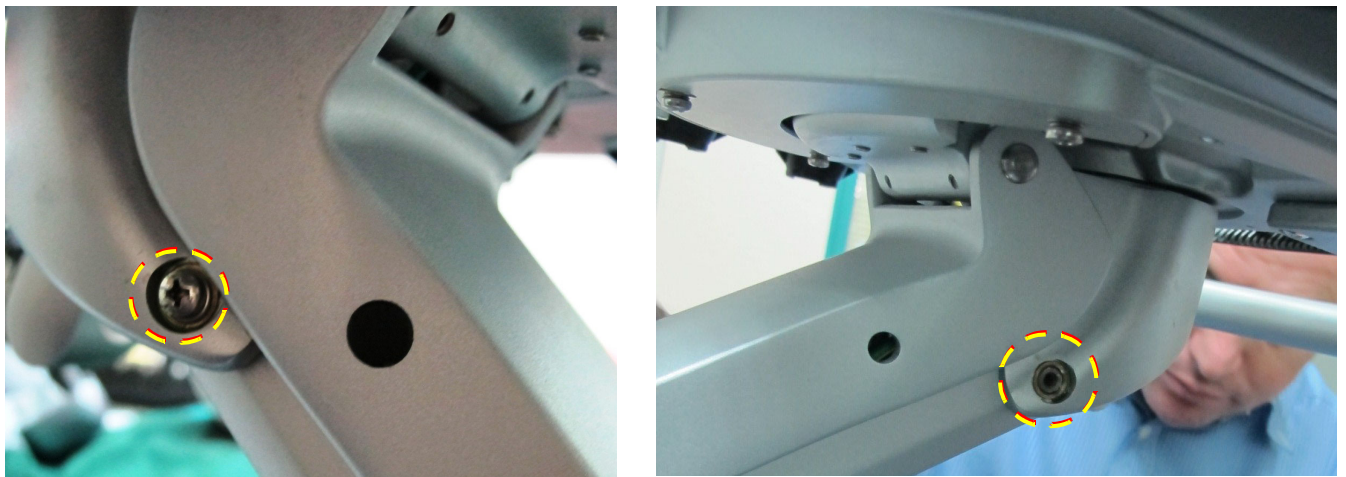

Figure 8-242 Removing Screw on Left Side of Lower Arm
- 3.) Loosen and remove the screw that is located at the base of the operator panel (below the keyboard), as shown in Figure 8-242 below.
- 7.) Return and fasten the screws (previously removed from the base of the operator panel - below the keyboard, as shown in Figure 8-242 on page 8-195).